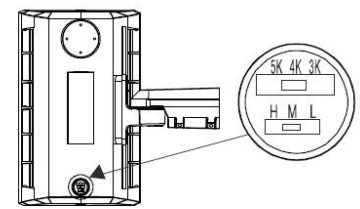

Figure 13
3. Select the wattage and color temperature by sliding the switches left or right respectively to the desired value (Figure 13).